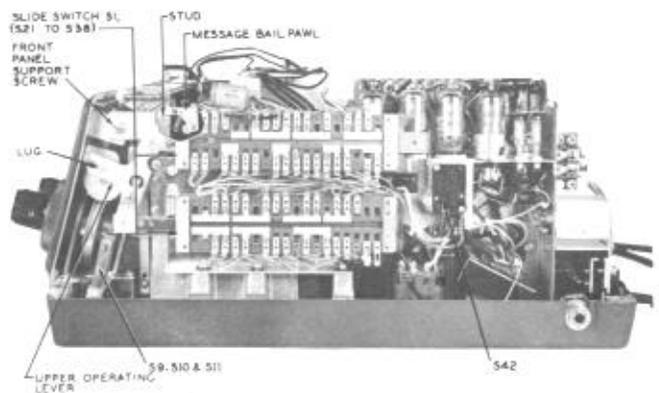
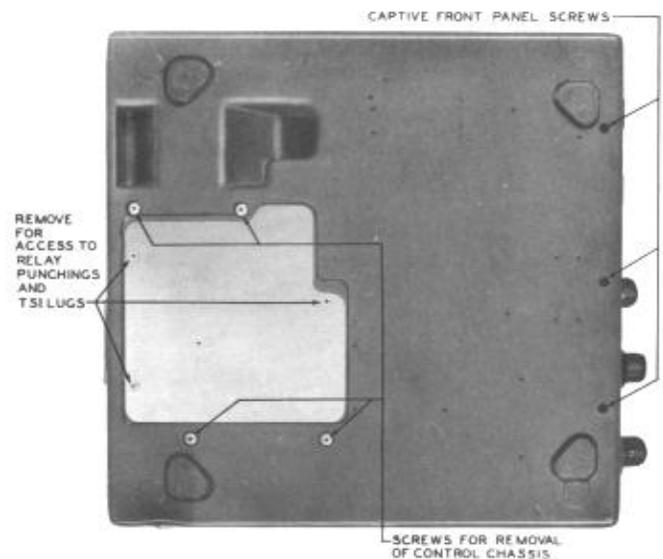
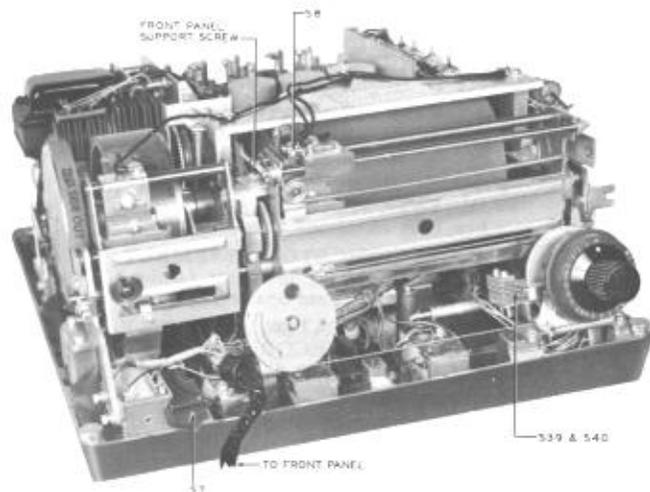

Fig. 1—1B Telephone Answering Set—Right Side
Fig. 6—1B Telephone Answering Set—Bottom
Fig. 9—IB Telephone Answering Set—Front View with Panel Removed
2.13 The front panel is secured with three captive machine screws (see Fig. 6) and two removable machine screws (see Figs. 1 and 9).
- (1) Check the message bail pawl to insure that it has not become disengaged from stud on the right rear of incoming message head carriage bail (see Fig. 1).
- (2) Place one of the machine screws with the flat and lock-washers in the hole in center front panel support (see Fig. 9).
- (3) Position the front panel so that the threads on the screw are engaged, but do not tighten securely.
- (4) Place the lug on the selector switch lever actuator assembly in the slot of the upper operating lever on the S1 slide switch (see Fig. 1).
- (5) Place the second machine screw with the flat and lock-washers through hole of the front panel support on the right of the answering set panel (see Fig. 1).
- (6) Position the front panel so that the threads of the screw are engaged but do not tighten.
- (7) Position the bottom of the front panel so that the three captive machine screws can be threaded into the panel supports. Do not permit the three bottom front panel supports to pinch or prevent the free movement of the cable between the message selector knob and the H2 head carriage (see Fig. 9).
- (8) Tighten all the front panel support screws.
- (9) Check the function selector knob for proper operation of S1 slide switch.
- (10) Check the message selector knob for proper operation of the incoming message recording head carriage.